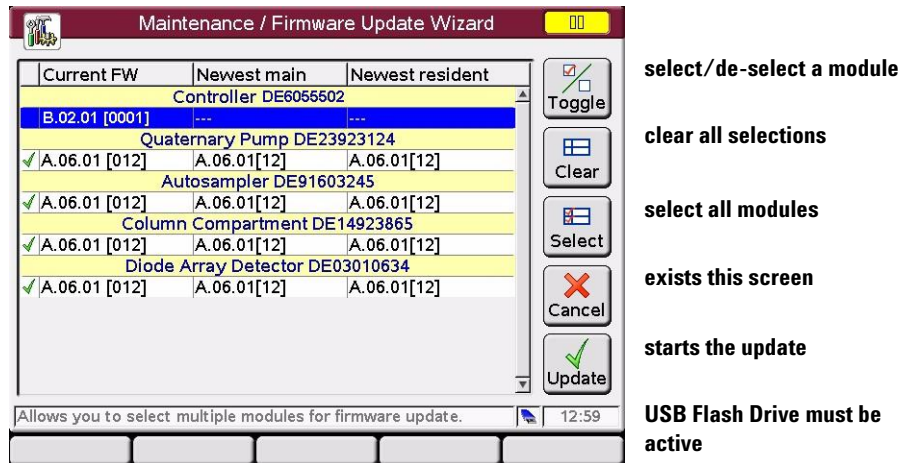

Figure 113 Firmware Update Screen - Update Wizard
- 2 The next screen (Figure 113) shows all modules, their installed firmware revisions and the available firmware revisions on the USB Flash Drive.